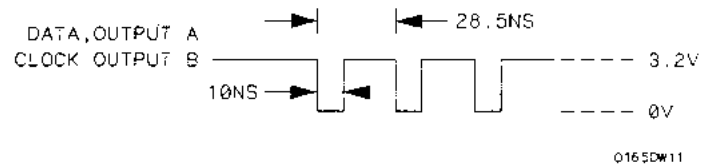

Figure 3-12. Waveform for Data Test 2
- Adjust the pulse generator for the output in figure 3-12.